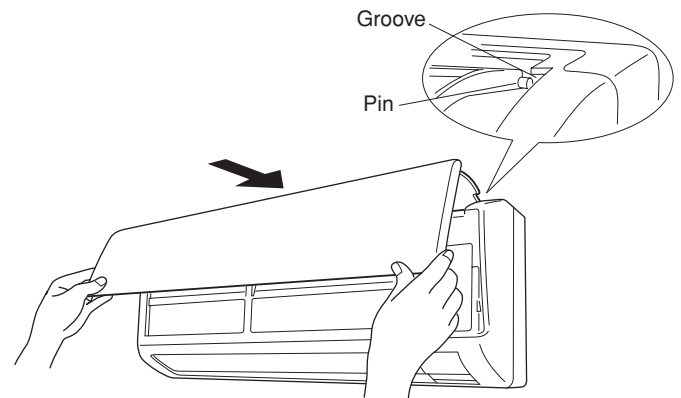

Fig. 19a
- (6) Install the air intake grille.
- (a) Allow the edge of the air intake grille to slide into the top of the indoor unit, and then insert it all the way inside. (Fig. 19a)